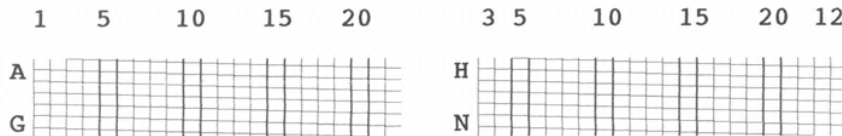

Figure 26: Pattern A
- Pattern A visualizes the condition of the cartridge contacts in a grid patter (see Figure 26 below).